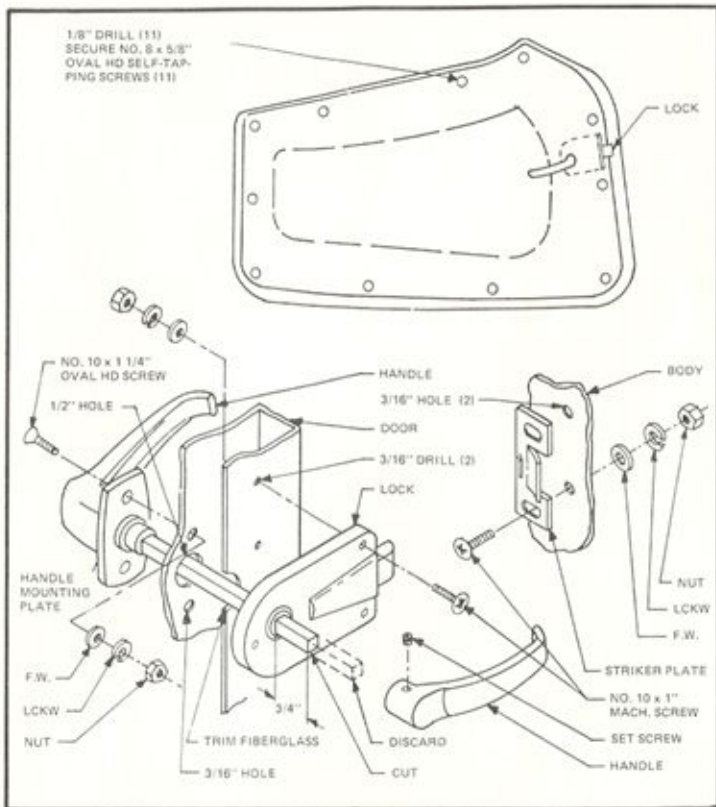

Figure 75
- Refer to Figure 75 . Temporarily hold upholstery in place and mark location of lock cut out. With door closed, hold lock in position with spring latch contacting body. Mark holes and drill ($3/16''$ drill bit). It may be necessary